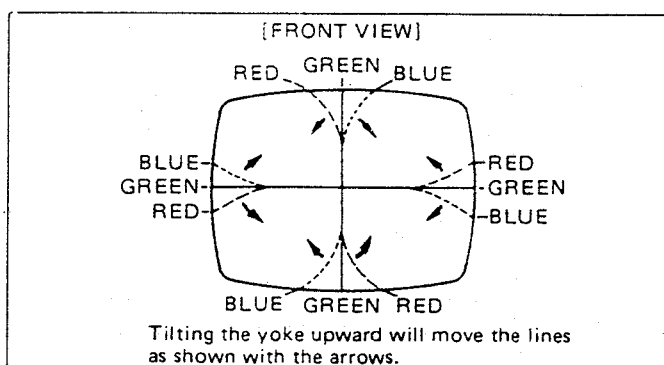

Fig. 10
8. Tilting the angle of the yoke up, down and sideways, and adjust the yoke so as to obtain the circumference convergence. (Fig. 10,11)